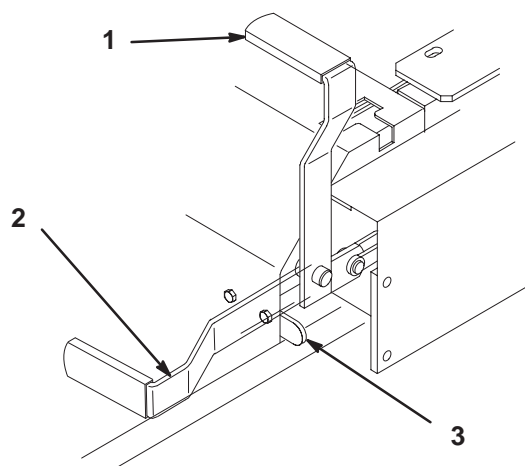

Figure 10
2. Pull back and up on the parking brake lever to set the parking brake (Fig. 10). The parking brake lever should stay firmly in the **engaged** position.
1. Push forward and down on the parking brake lever to release the parking brake (Fig. 10). The parking brake is **disengaged** and the lever will rest against the brake stop.